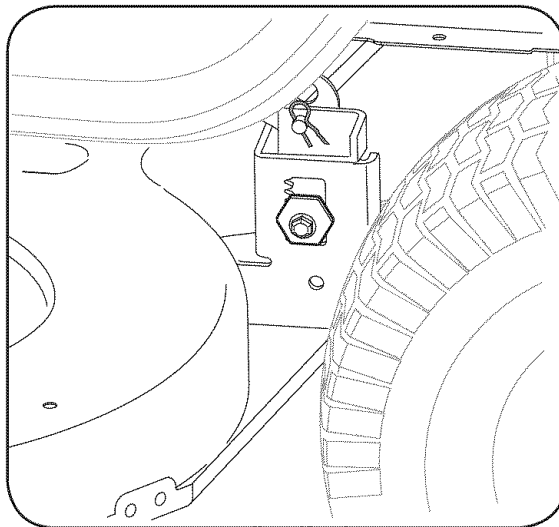

Figure 6-3
4. Looking at the cutting deck from the left side of the tractor, locate the hair pin clip that secures the deck support rod on the rear left side of the deck. See Fig. 6-3.